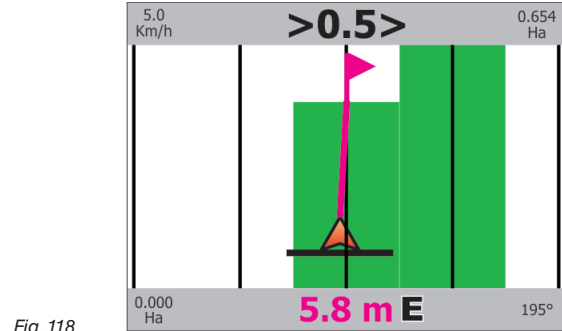

Fig. 118
- When you reach the track with the point of interest, the display shows the distance between your position and the point (**E** Fig. 118).